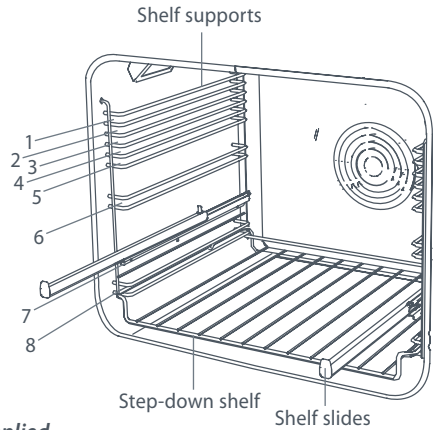

Fig. 12 Shelf positions
- *For all shelf positions (unless your oven is supplied with shelf slides on position 7) make sure you fit shelves and the grill/roast pan between the metal runners of the shelf supports, as shown in Fig.12.*